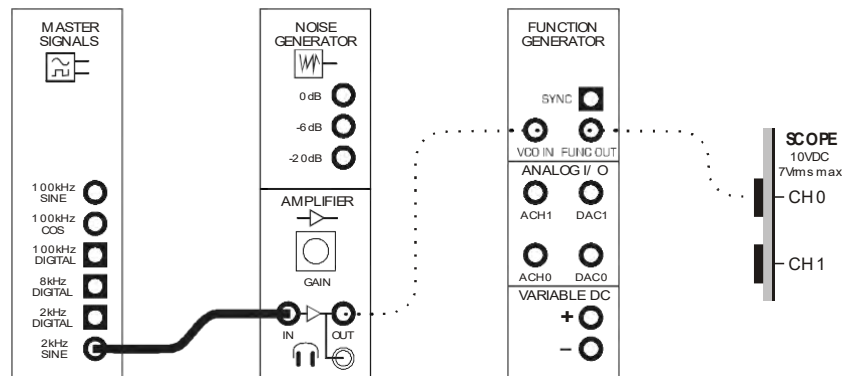

Figure 7
32. Disconnect the plug to the GND socket and modify the set-up as shown in Figure 7 below.